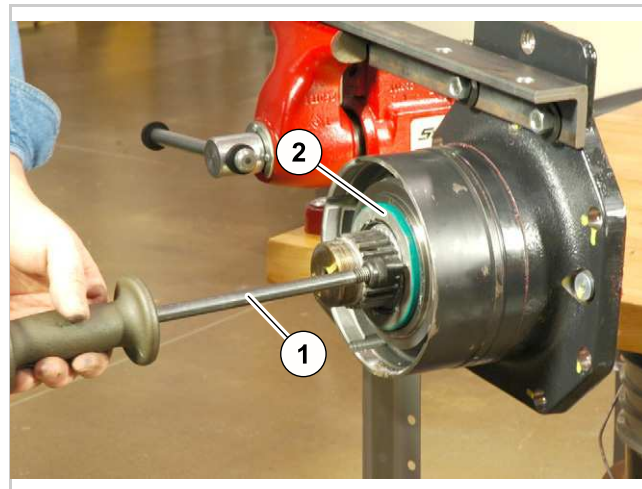

Fig. 16 (26415)
15. Use a slide-hammer (1, Figure 16) and remove the oil seal (2).